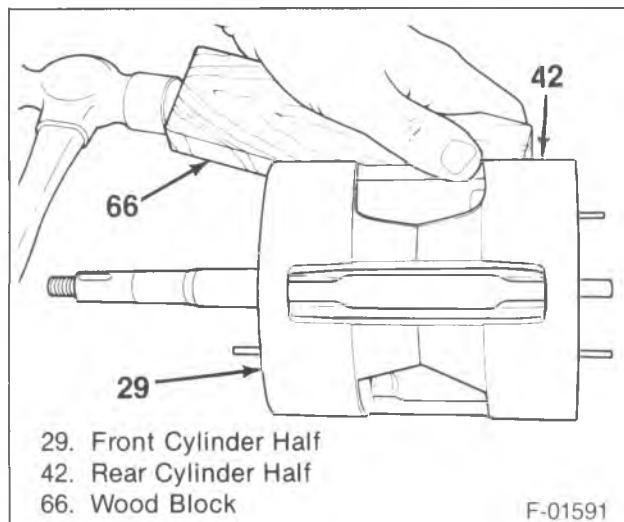
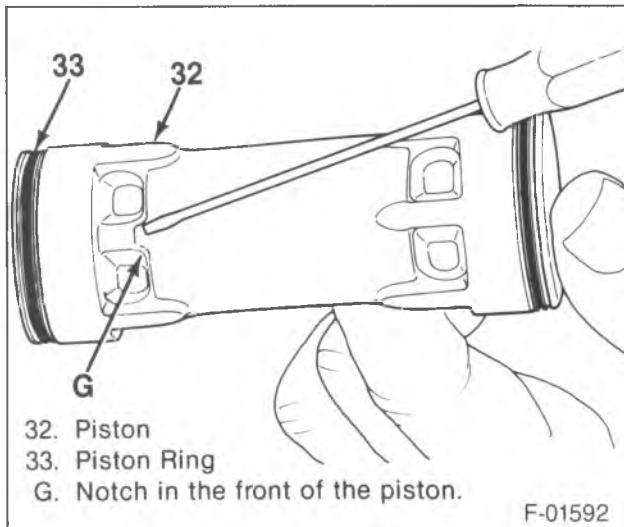

Figure 24—Separating the Cylinder Halves
Figure 25—Identifying the Notch at the Front of the Piston
- Separate the cylinders (29 and 42) with a block of wood and a mallet (figure 24).
- Do not let the discharge cross-over tube (26) touch the axial plate (39).
- Do not strike the shaft at either end to separate the upper and lower cylinder halves because the shaft (39) can be damaged.
17. Rear half (42) of the compressor from the pistons (30).
18. Front cylinder half (29) with the piston (38), shaft and axial plate (38) to J 9397.
19. Pistons (30), balls (31) and seats (33) in the order in which the pistons are marked.
- Place the pistons (32) in J 9402 with the notch in the casting web at the front end of the piston into the dimpled groove of the J 9402 (figure 25).